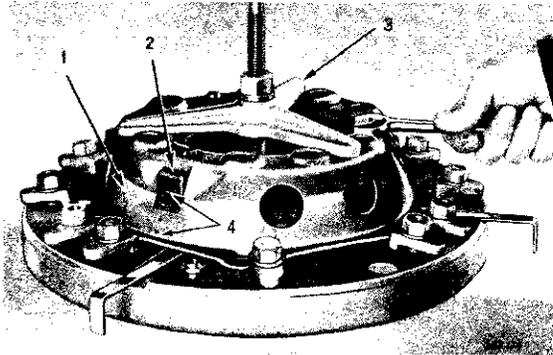

Fig. 3—Clutch Cover and Pressure Plate Assembled in Fixture
6. CLUTCH DISASSEMBLY (FIG. 3)